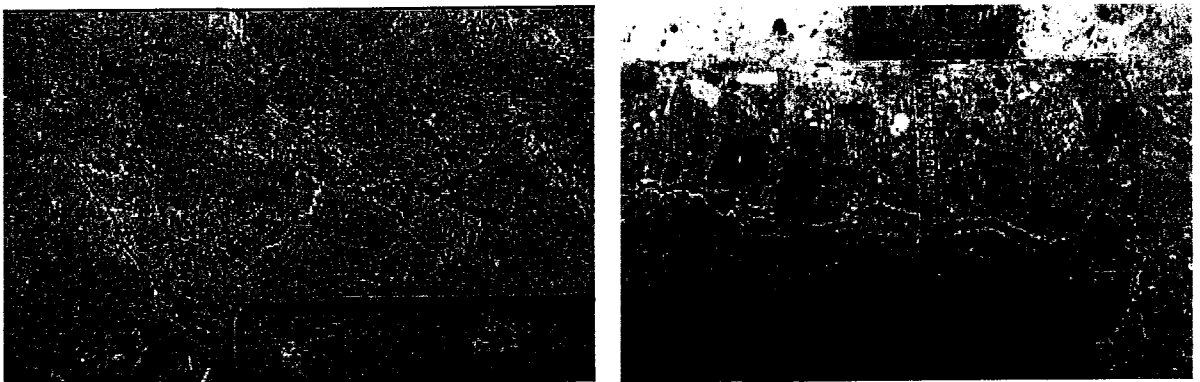

Figure 1 (a) Cracks at the surface of the pier (b) A concrete core showing the extent of cracking
- (b) State any **FOUR (4)** principles of good drainage. (4 marks)
*Nyatakan mana-mana EMPAT (4) prinsip untuk saliran yang baik.*
4. (a) Give the appropriate definition for mass concrete and give **THREE (3)** examples where mass concrete could potentially be used in construction. (5 marks)
*Berikan definisi yang sesuai untuk konkrit pukal dan berikan TIGA (3) contoh di mana konkrit pukal kemungkinan digunakan di dalam pembinaan.*
- (b) Table 1 provides the material specifications for piers of a bridge to be constructed spanning a river. A few weeks after the construction, serious cracking problems have been observed on the piers of the bridge. Examples of the cracks are shown in Figure 1. Based on the stated problem, material specifications and example of cracks given, explain the most probable cracking problems that have occurred. Explain the mechanism how the cracks occur. Describe the measures which could be taken during construction to prevent or reduce the risk of the problem. (20 marks)